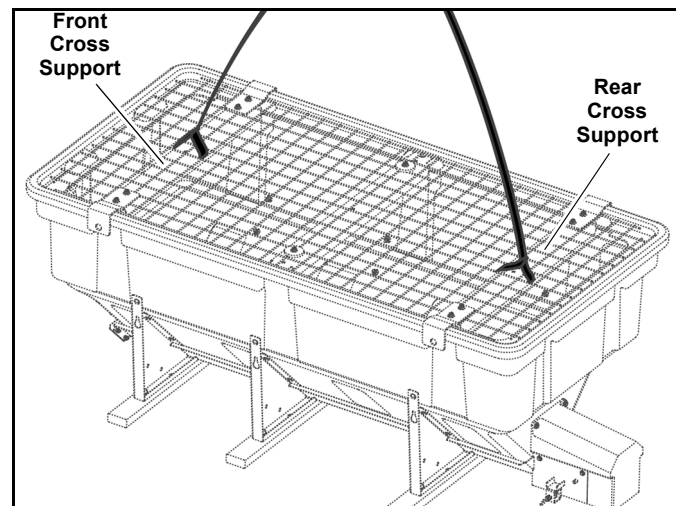

Figure 1-8
2. Attach two lift straps through the top grate to the front and rear spreader cross supports (See Figure 1-8).